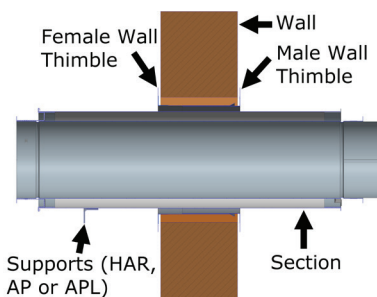

Figure 59c - Supports for Chimney passing through a Wall
Chimney that penetrate wall have to be supported at least on one side of the wall, supporting the section that penetrates through the wall. It can either be supported by bracing a Half angle Ring (HAR), Anchor Plate (AP), or Anchor Plate Length (APL) See **Figure 59c**